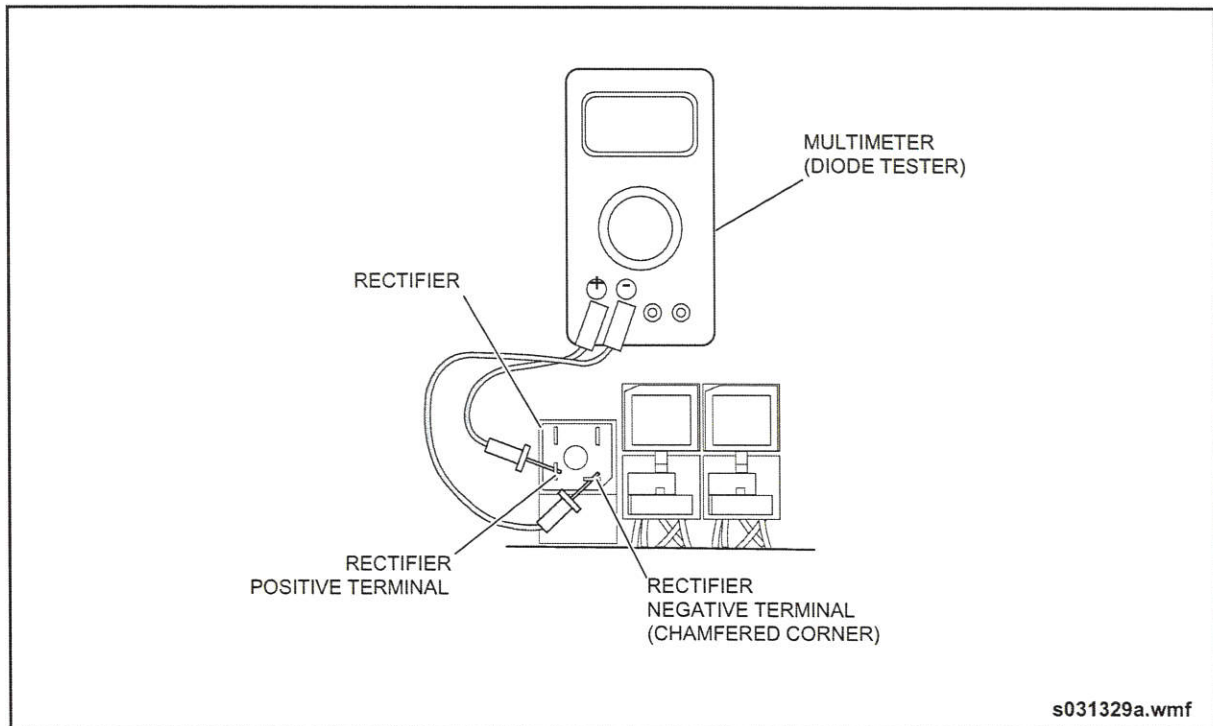

Fig. 10-8: Rectifier Test Connections
- a. Identify the negative terminal on the rectifier (chamfered corner) and connect diode tester accordingly. Diode tester should indicate current flow in this direction. See "Fig. 10-8: Rectifier Test Connections" on page 20.